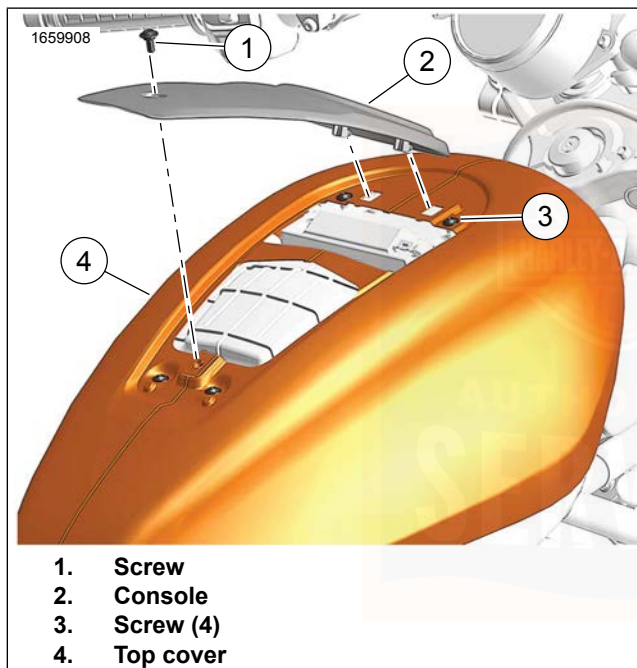

Figure 72. Top Cover
1. See Figure 72. Remove top cover.
- a. Remove screw (1).
- b. Lift rear of console (2) to remove.
- c. Remove screws (3).
- d. Remove top cover (4).
- c. Connect connector (3).
3. See Figure 72. Install top cover.
- a. Install top cover (4).
- b. Install screws (3). Tighten.